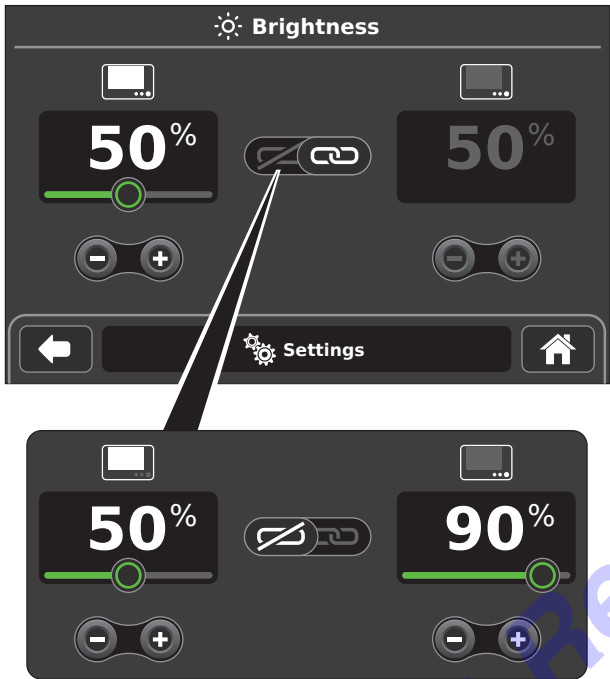

Figure 26 – Brightness Screen
3. Touch the BRIGHTNESS LINKED button or BRIGHTNESS UNLINKED button as desired (Figure 26).